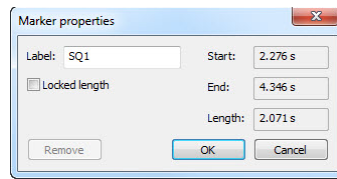

Figure 319 – Marker properties dialog
4. Release the left mouse button. The **Marker properties** dialog is automatically displayed (see Figure 319).